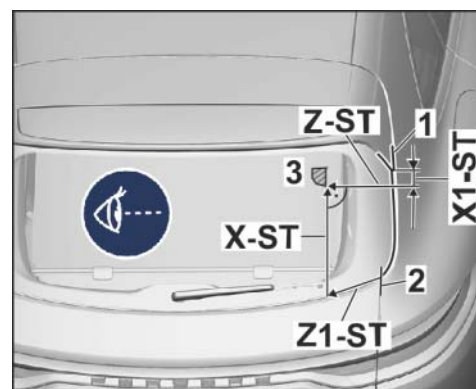

Figure 15
3.2.1 Copying dimensions to rear window ⇒ Figure 15